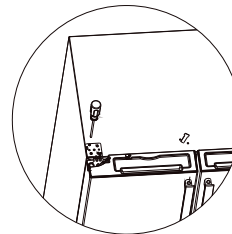

Figure 3
3. Use the screwdriver to loosen the 3 screws and 1 earth screw fixing the upper hinge, then remove the plug terminal and then remove the left door. See Figure 3.